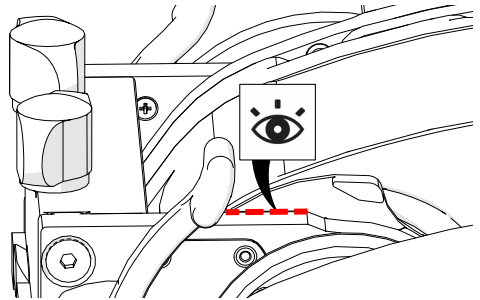

Fig. 192 - Align swivel mount with etched line
7. Ensure the swivel mount of the **NAVIC** is horizontally aligned (Fig. 192) with the etched line on the crawler (see "Swivel Mount" on page 59 for additional details).